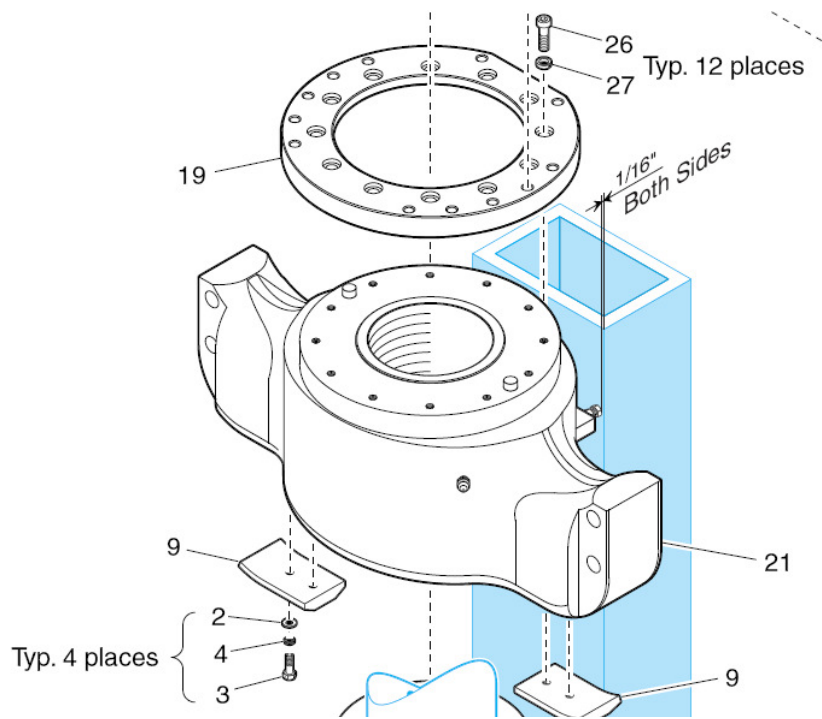

Figure 2 – Adjustment of bolt protrusion
3. Adjust depth of bolt to provide 1/16" space between bolt heads and grabber leg as shown in Figure 2 below, torque jam nut to 50 ft-lb.